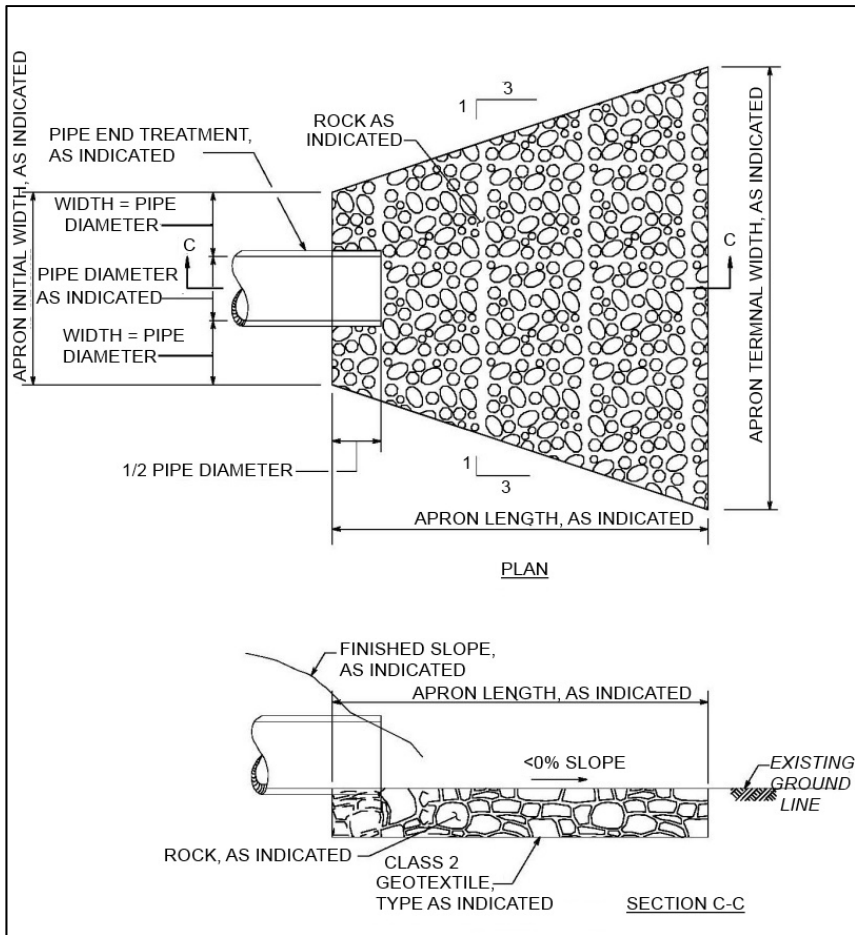

Figure 33: Rock Apron – Flat Area with Pipe
- The specific pipe end treatment will determine the placement of the rock apron. Utilize **Figure 33, 34, 35 and 36** to determine the appropriate rock apron.